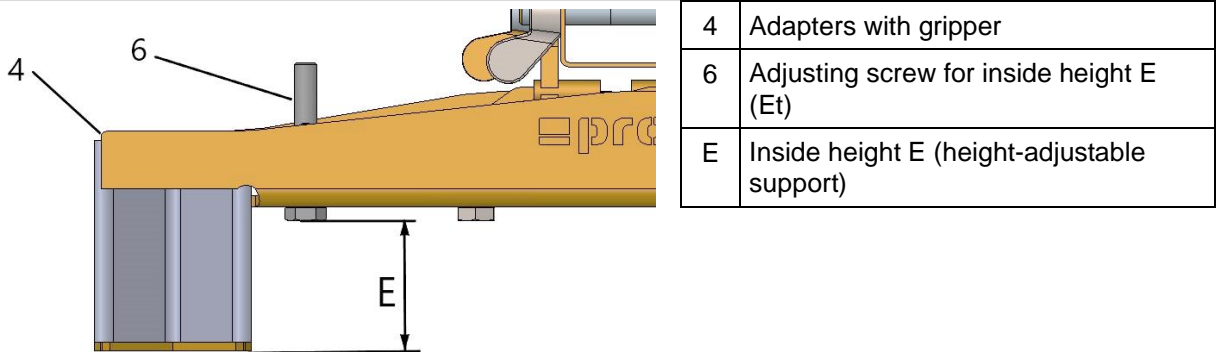

Fig. 3
In addition, the "inside height E (Et)" of the grippers on the adapter (4) can be changed, which must be adjusted depending on the gripping goods to be picked up (Turf Stones) ( Fig. 3).